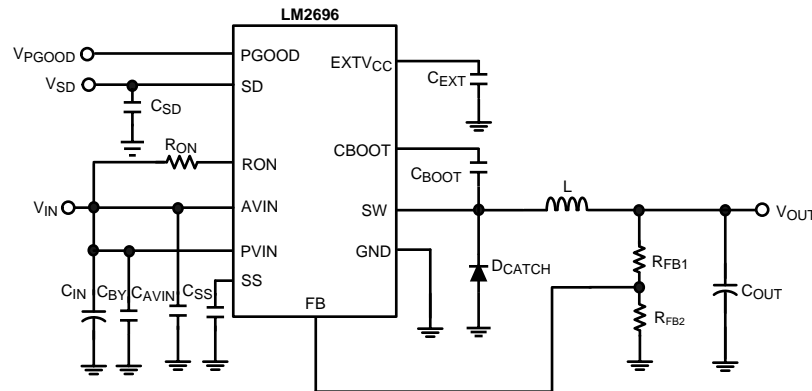

Figure 27. 5V-to-2.5V Voltage Applications Circuit
(1) (Figure 27: Medium Voltage Board, 5V-to-2.5V conversion, $f_{sw} = 300$ kHz)